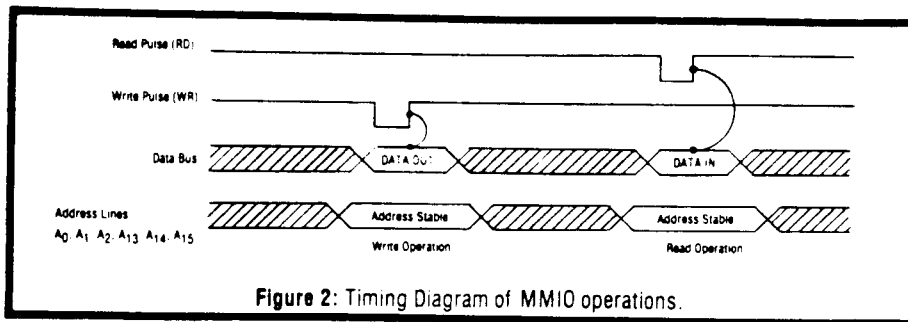

Figure 2: Timing Diagram of MMIO operations.
Two 74LS138s (IC3 and IC4) generate 8 input and 8 output transfer pulses by decoding the ZX81's 3 lowest order address lines A0, A1, and A2. Address lines A0, A1, and A2 are connected to pins 1, 2, and 3 respectively of the 74LS138s and pins 5 and 6 of the 74LS138s additionally decode the address bus by detecting when the 8192(D) to 16383(D) memory space is being accessed. Timing of the transfer pulses is accomplished via a memory write (WR) signal and a memory read (RD) signal connected to pins 4 of ICs 3 and 4 respectively. Figure 2 shows the timing diagrams of the MMIO operations.